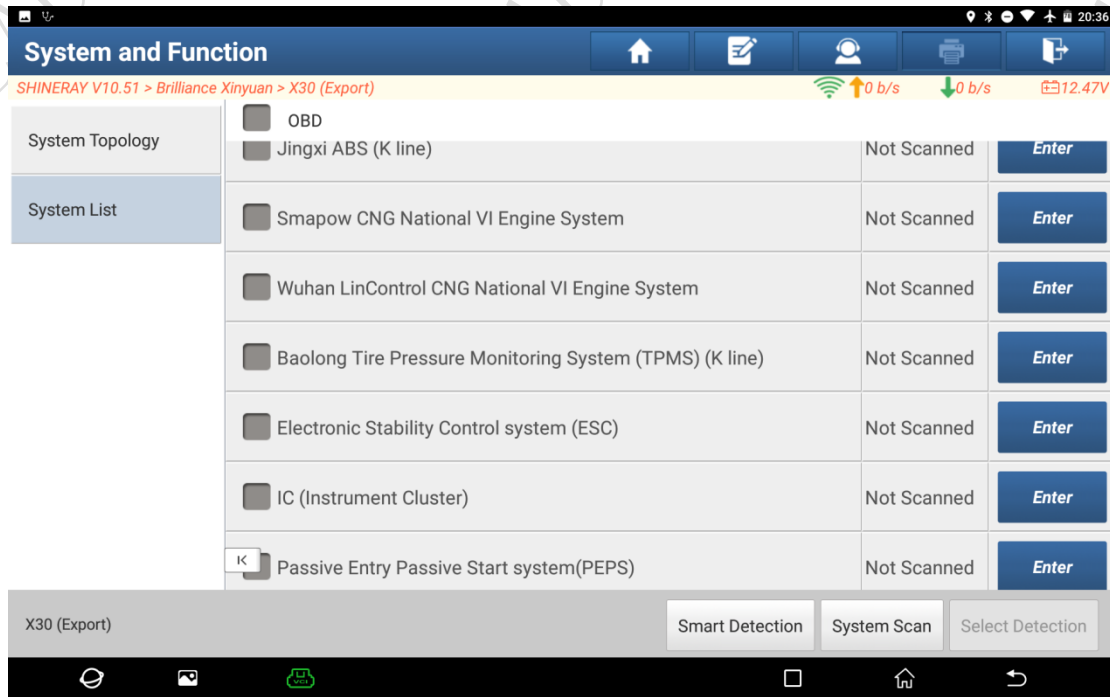

Figure 4
- Choose [System List] to enter the system selection interface, choose [Baolong Tire Pressure Monitoring System (TPMS) (K Line)] and then click [Enter] to continue, as shown in Figure 4.